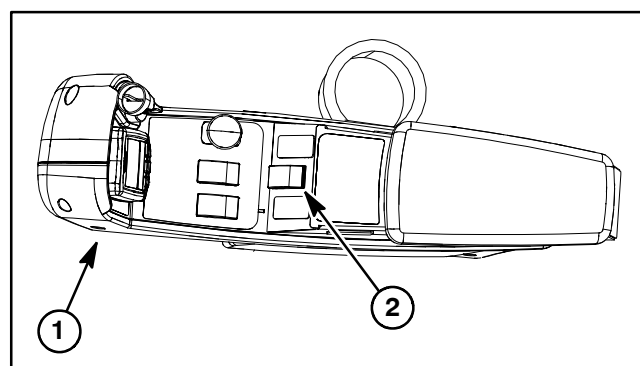

Figure 10
On the Groundsmaster 4500-D, a single lift switch on the console arm is used to raise and lower the five (5) cutting decks (Fig. 10).